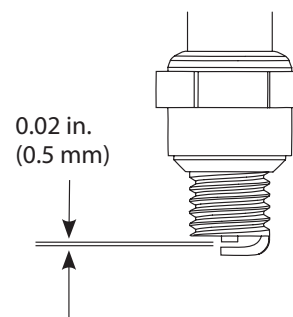

Fig.23
3. Replace cracked, fouled or dirty spark plug. Set the air gap at 0.02 in. (0.5 mm.) using a feeler gauge (Fig 23).